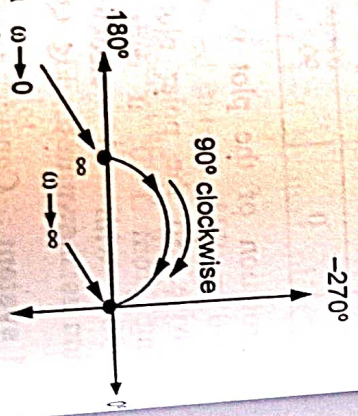

Fig. Q.19.3
- So the polar plot is starting from  $\infty \angle -180^\circ$  it ends at  $0 \angle -270^\circ$  with  $90^\circ$  clockwise rotation as shown in the Fig. Q.19.3.